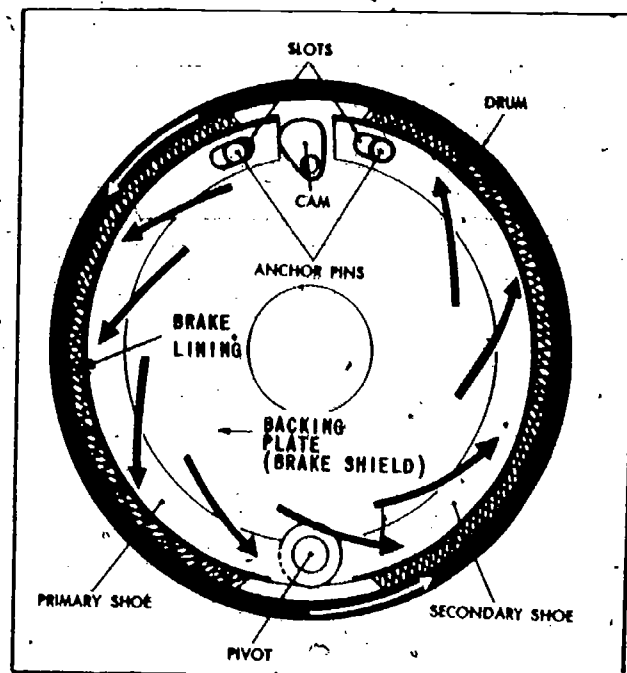

Fig 3-9. Internal-expanding brake.
(a) General. Brake types, classifications, and principles of operation are similar to clutches. The major difference between a brake and a clutch is that a clutch transmits power, both friction surfaces are free to move, while a brake stops rotation, one friction surface is stationary. There are disk, internal-expanding, and external-contracting brakes. The most commonly used types of brakes are the external-contracting and internal-expanding. The principal parts of a brake are the shoes which have a nonmetallic lining riveted or bonded to them. They are normally anchored to the vehicle to serve as the stationary member. The other friction surface is usually a machined metal surface on a rotating part. The parts of one type of internal-expanding brake are shown in figure 3-9. The length of lining on the primary and the secondary shoe of some internal-expanding brakes is different. Some primary shoes have a shorter lining than the secondary shoe; others are the same length.
- (b) **Brake control and operation.** A brake can be controlled by the same methods as a clutch. As indicated in figure 3-9, some brakes are designed to add additional pressure through their action. Brake systems are often referred to as service, parking, transmission, and operating. Service brakes are those used for stopping or controlling vehicle speed under normal conditions. Parking brakes, used to hold the machine when stopped, are sometimes called emergency brakes. Transmission brakes are used to slow or stop the transmission and power train parts for easier and faster shifting of transmission gears. Operating brakes are those used to control the attachments.